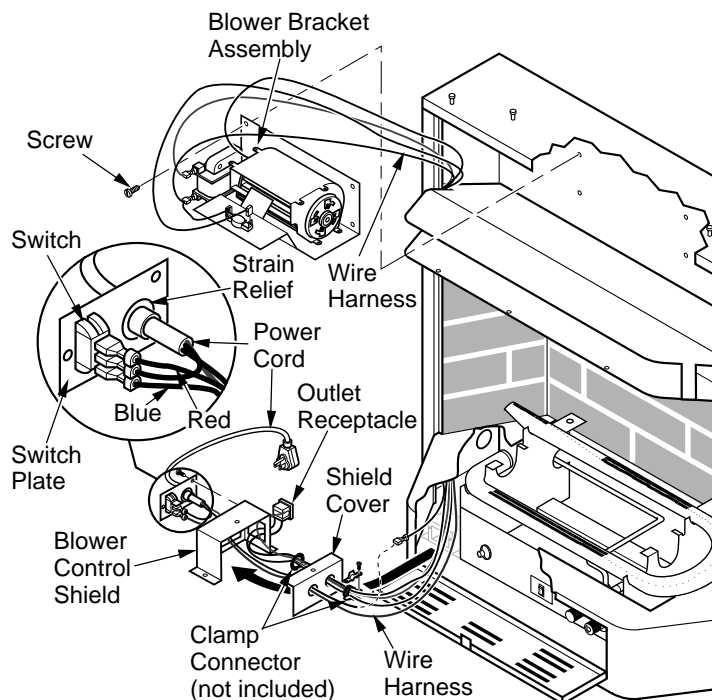

Figure 17 - Installing Blower Bracket Assembly
- Remove black plastic strain relief and power cord from switch plate (see Figure 17). The power cord supplied will not be used in built-in installations. Pop in the plastic snap bushing found in hardware kit into the hole left by supply cord/strain relief.